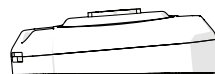

Figure 3
**STEP 7** Reinstall the **Top Housing** so it snaps into place and there is no gap between it and the **Bottom Housing**. **FIG 3**